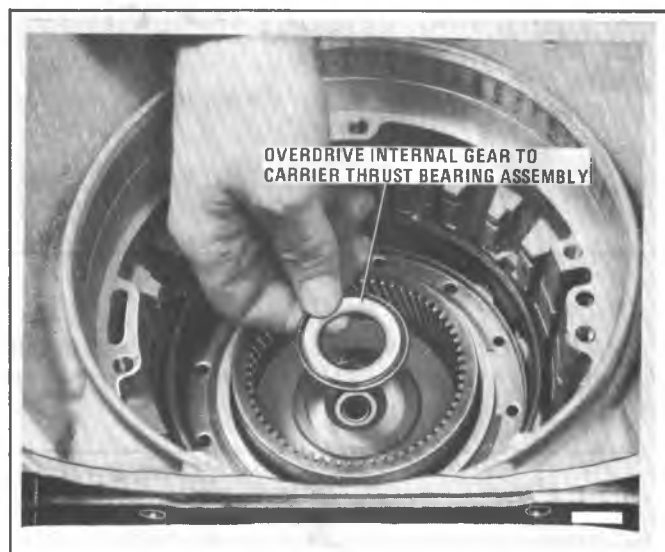

Figure 7A6-39 Removing Overdrive Internal Gear to Carrier Thrust Washer
b. Grasp turbine shaft and lift out overdrive assembly and fourth clutch plates (Figure 7A6-38).